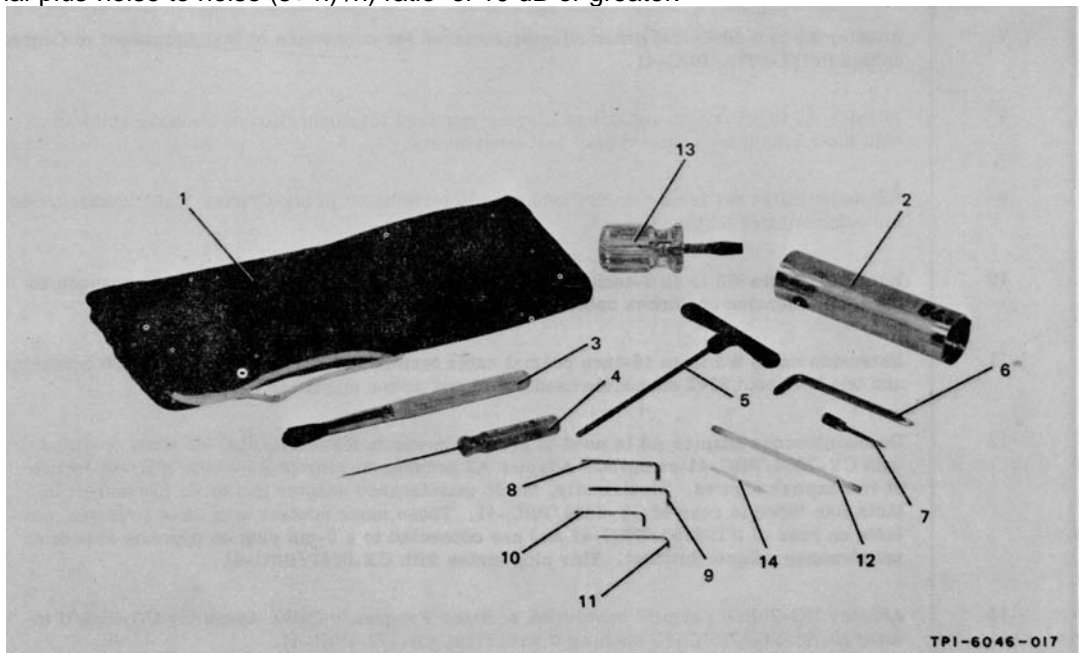

Figure 1-13. Contents of Tool Kit
(12) TOOL KIT. (Refer to figure 1-13.) - The tool kit contains the special tools supplied for adjustment and maintenance of RT-695A/PRC-41. Refer to table 1-5.